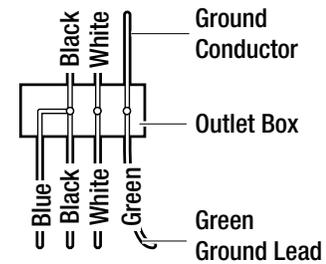

Figure 8
- Connect the fan supply (black) wire and light supply (blue) wire to the black household wire as shown in Figure 8. Do not connect the blue wire if the light kit is not used.
- After connecting the wires, secure the wire connectors (BB) with black electrical tape and spread them apart so that the green and white wires are on one side of the outlet box and the black and blue wires are on the other side. (i.e., grounded conductor on one side and hot wires on the other side.)
- Turn the wire connectors (BB) upward and push the wiring into the outlet box.